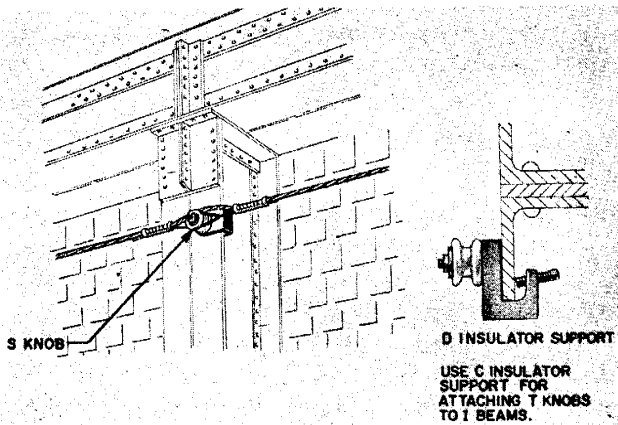

Fig. 11 - D Insulator Support and S Knob
- D insulator support (Fig. 11) will accommodate S knobs or B or M bridle rings. It can be attached to steel structures up to 3/4 inch in thickness.